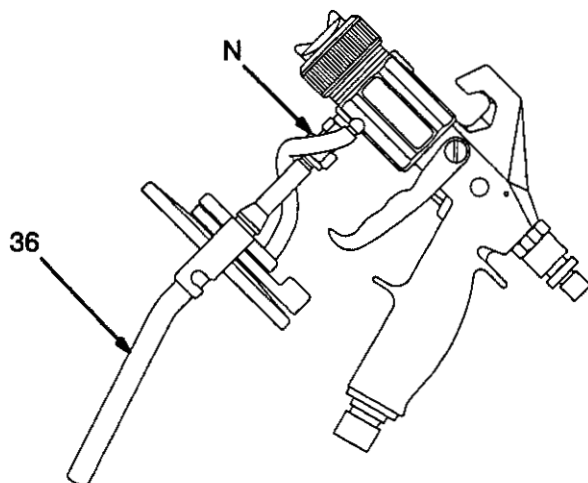

Fig. 15
For prolonged overhead spraying, loosen the fluid tube nut (N) and turn the entire cup assembly one-half turn. See Fig. 15. This will position the fluid tube (36) in the back side of the cup so the entire contents will be sprayed.